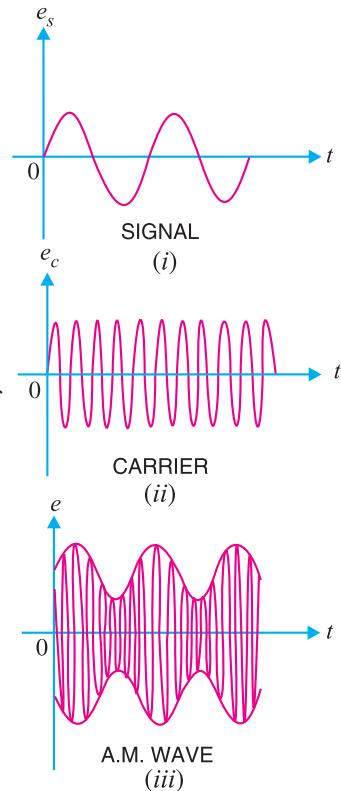

Fig. 16.2
In amplitude modulation, only the amplitude of the carrier wave is changed in accordance with the intensity of the signal. However, the frequency of the modulated wave remains the same i.e. carrier frequency. Fig. 16.2 shows the principle of amplitude modulation. Fig. 16.2 (i) shows the audio electrical signal whereas Fig. 16.2 (ii) shows a carrier wave of constant amplitude. Fig. 16.2 (iii) shows the amplitude modulated (AM) wave. Note that the amplitudes of both positive and negative half-cycles of carrier wave are changed in accordance with the signal. For instance, when the signal is increasing in the positive sense, the amplitude of carrier wave also increases. On the other hand, during negative half-cycle of the signal, the amplitude of carrier wave decreases. Amplitude modulation is done by an electronic circuit called *modulator*.